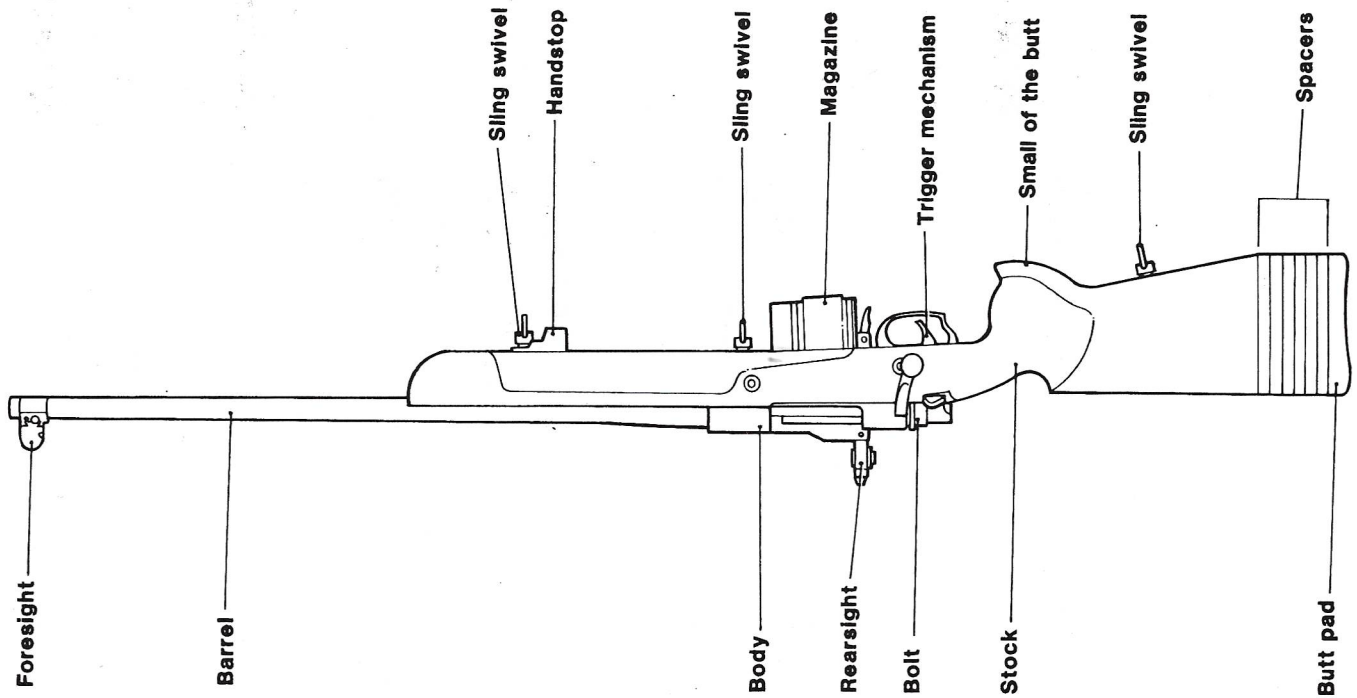

FIG. 1. M.85 SNIPER RIFLE
3.1 STOCK (Fig 1) The one piece stock is available in either walnut or composite material.